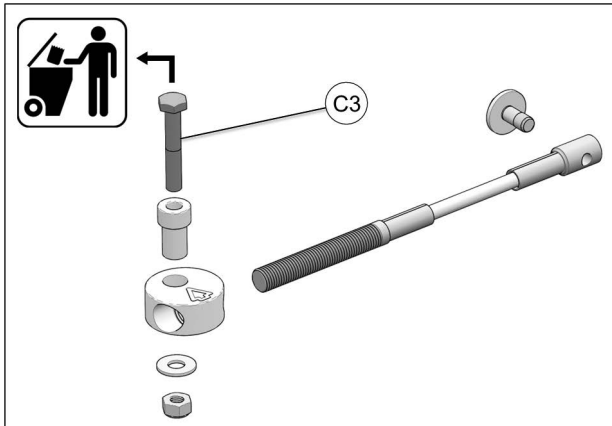

Fig. 20
11. Remove and discard M10 bolt (**C3**) from steering limiter cable parts kit as shown in Fig. 20